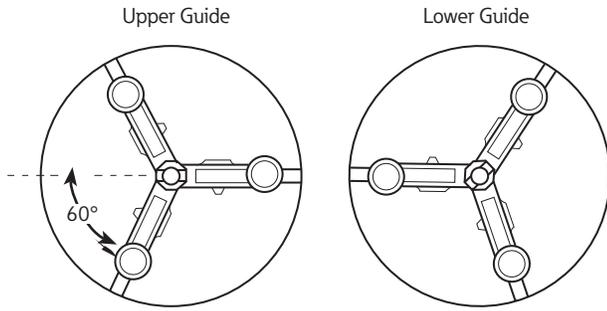

Figure 9. Orientation of two guides on handle assembly.
- Position and securely tighten the guide(s) to the fiberglass rod of the handle assembly, as illustrated for the appropriately rated fuse. When two guides are used for the single barrel fuse, rotate the upper guide 60° out from the position of the lower guide as shown in Figure 9.